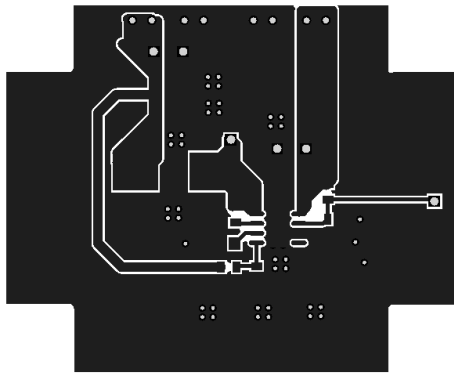

Figure1—Top Layer
1. For minimum noise problem and best EMI performance, the PCB is preferred to following the guidelines and figure 1 as reference.